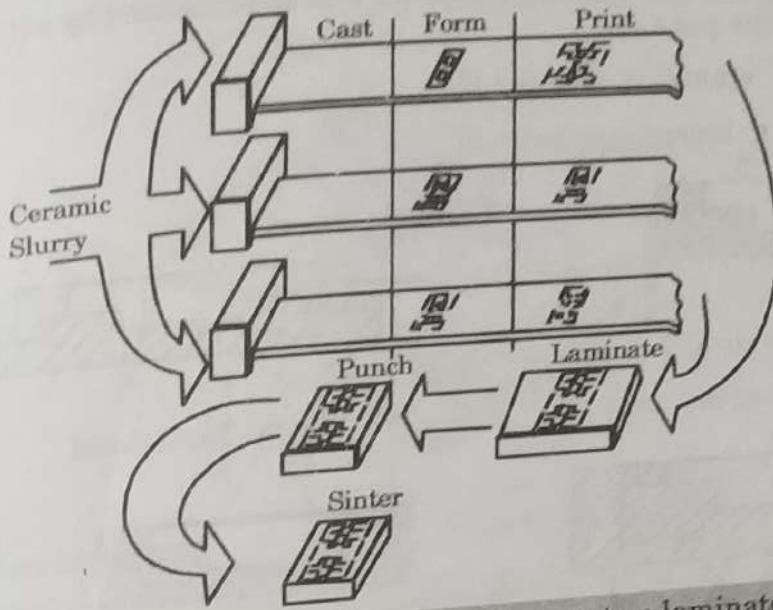

Fig. 5.20.1. Process sequence to create a laminated refractory-ceramic product starting from a ceramic slurry.
- Fig. 5.20.1 illustrates multilayer ceramic technology. A dispersion or slurry of ceramic powder and liquid vehicle is first prepared, and then cast into thin sheets by passing a leveling or doctor blade over the slurry.